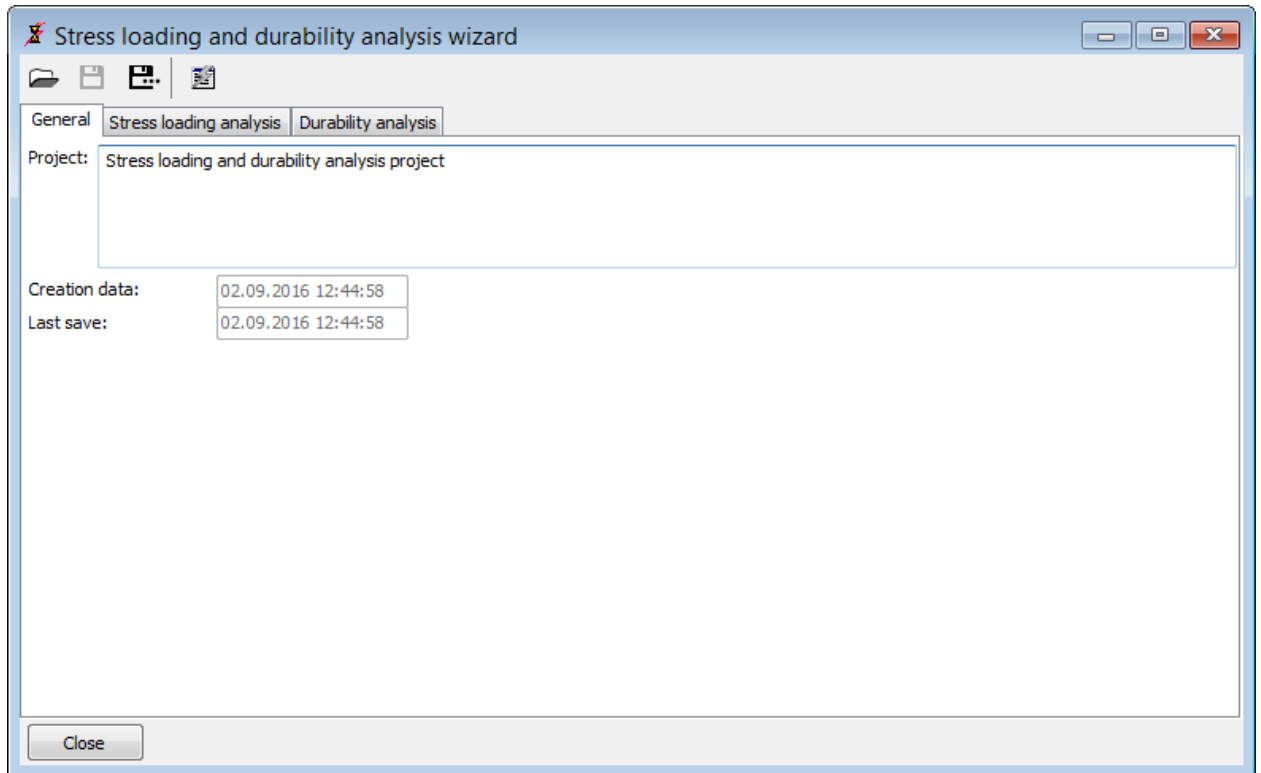

Figure 2.4. Durability wizard window
1. From the **Tools** menu select **Durability wizard.... Stress loading and durability analysis wizard** main window appears, see Figure 2.4. An empty project will be created automatically.